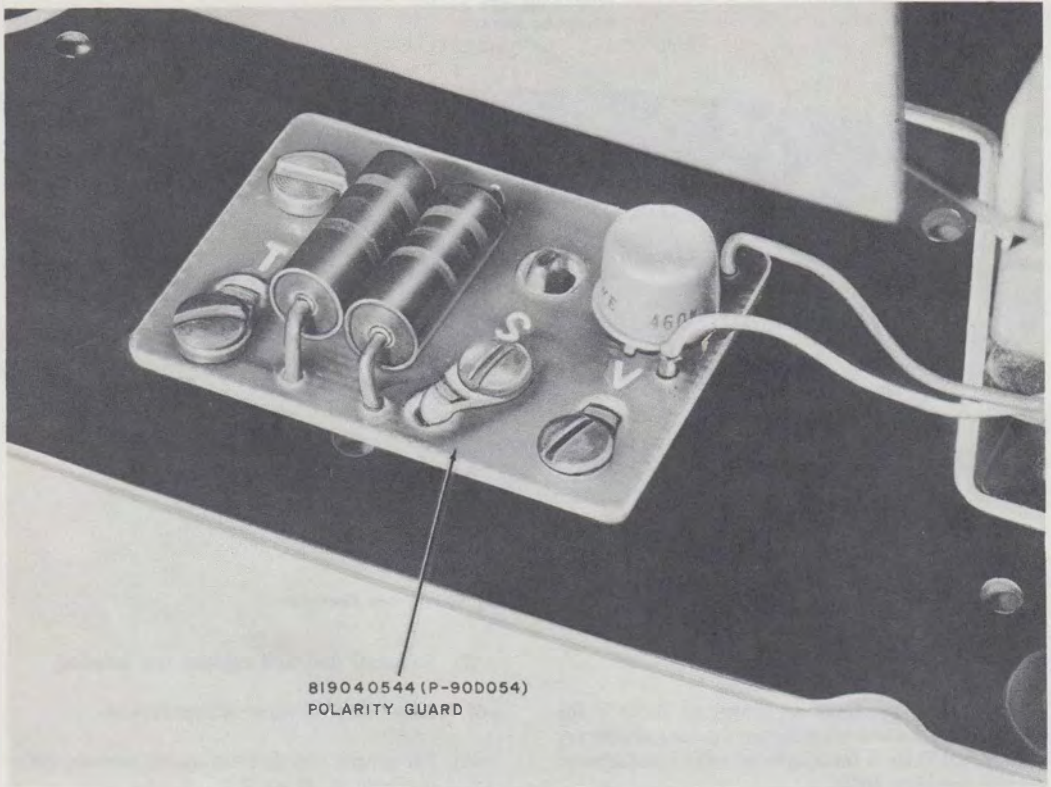

Fig. 5—D-180229 Kit of Parts for the 2921A Telephone Set Manufactured Prior to February 1975
- D-180229 Kit of Parts [Polarity Guard for 2921A manufactured prior to February 1975 (Table F) Fig. 5]
(3) Remove dial.
(4) Make connections as shown in Table F for telephone sets manufactured prior to February 1975, and Table G for telephone sets manufactured after January 1975.
(5) In 2921A telephone sets the Guard Assembly (Fig. 5) mounts on the right hand side of the dial mounting bracket with the screw contained in the D-180229 Kit of Parts. The bent tabs on the guard assembly bracket should fit over the back edge of the portion of the dial mounting bracket where the telephone set terminal board mounts. In this location the guard assembly is suspended over the ringer gong with the component facing up.